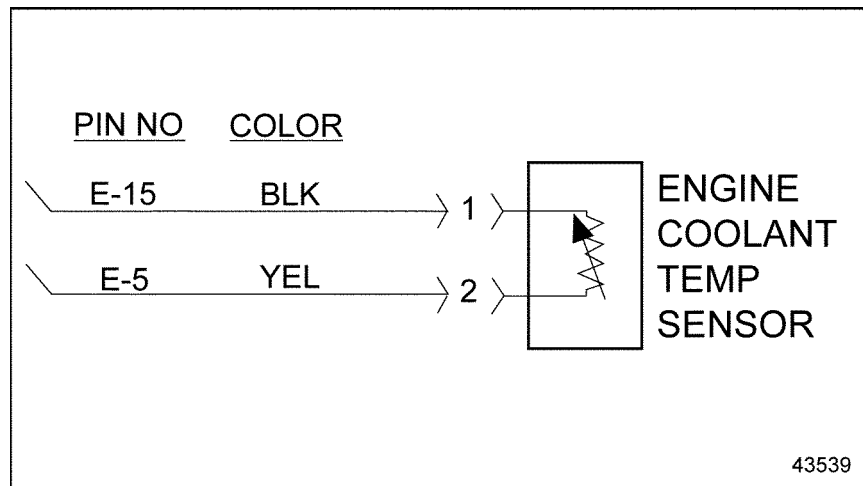

Figure 23-2 Engine Coolant Temperature Sensor Circuits
2. Disconnect CTS/ECT Sensor and install a jumper between the CTS/ECT Sensor connector sockets 1 and 2. See Figure 23-2.
4. Check terminals at the CTS/ECT Sensor connector (both sensor and harness side) for damage; bent, corroded and unseated pins or sockets. See Figure 23-2.